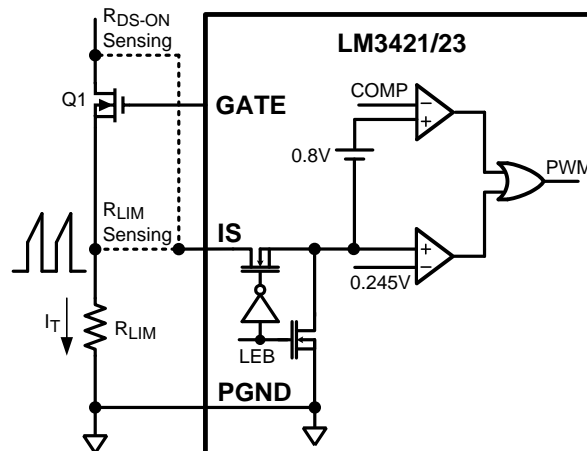

Figure 15. Current Sense / Current Limit Circuitry
The LM34xx-Q1 achieves peak current mode control using a comparator that monitors the main MOSFET (Q1) transistor current, comparing it with the COMP pin voltage as shown in Figure 15. Further, it incorporates a cycle-by-cycle overcurrent protection function. Current limit is accomplished by a redundant internal current sense comparator. If the voltage at the current sense comparator input (IS) exceeds 245 mV (typical), the on cycle is immediately terminated. The IS input pin has an internal N-channel MOSFET which pulls it down at the conclusion of every cycle. The discharge device remains on an additional 210 ns (typical) after the beginning of a new cycle to blank the leading edge spike on the current sense signal. The leading edge blanking (LEB) determines the minimum achievable on-time ( $t_{ON-MIN}$ ).